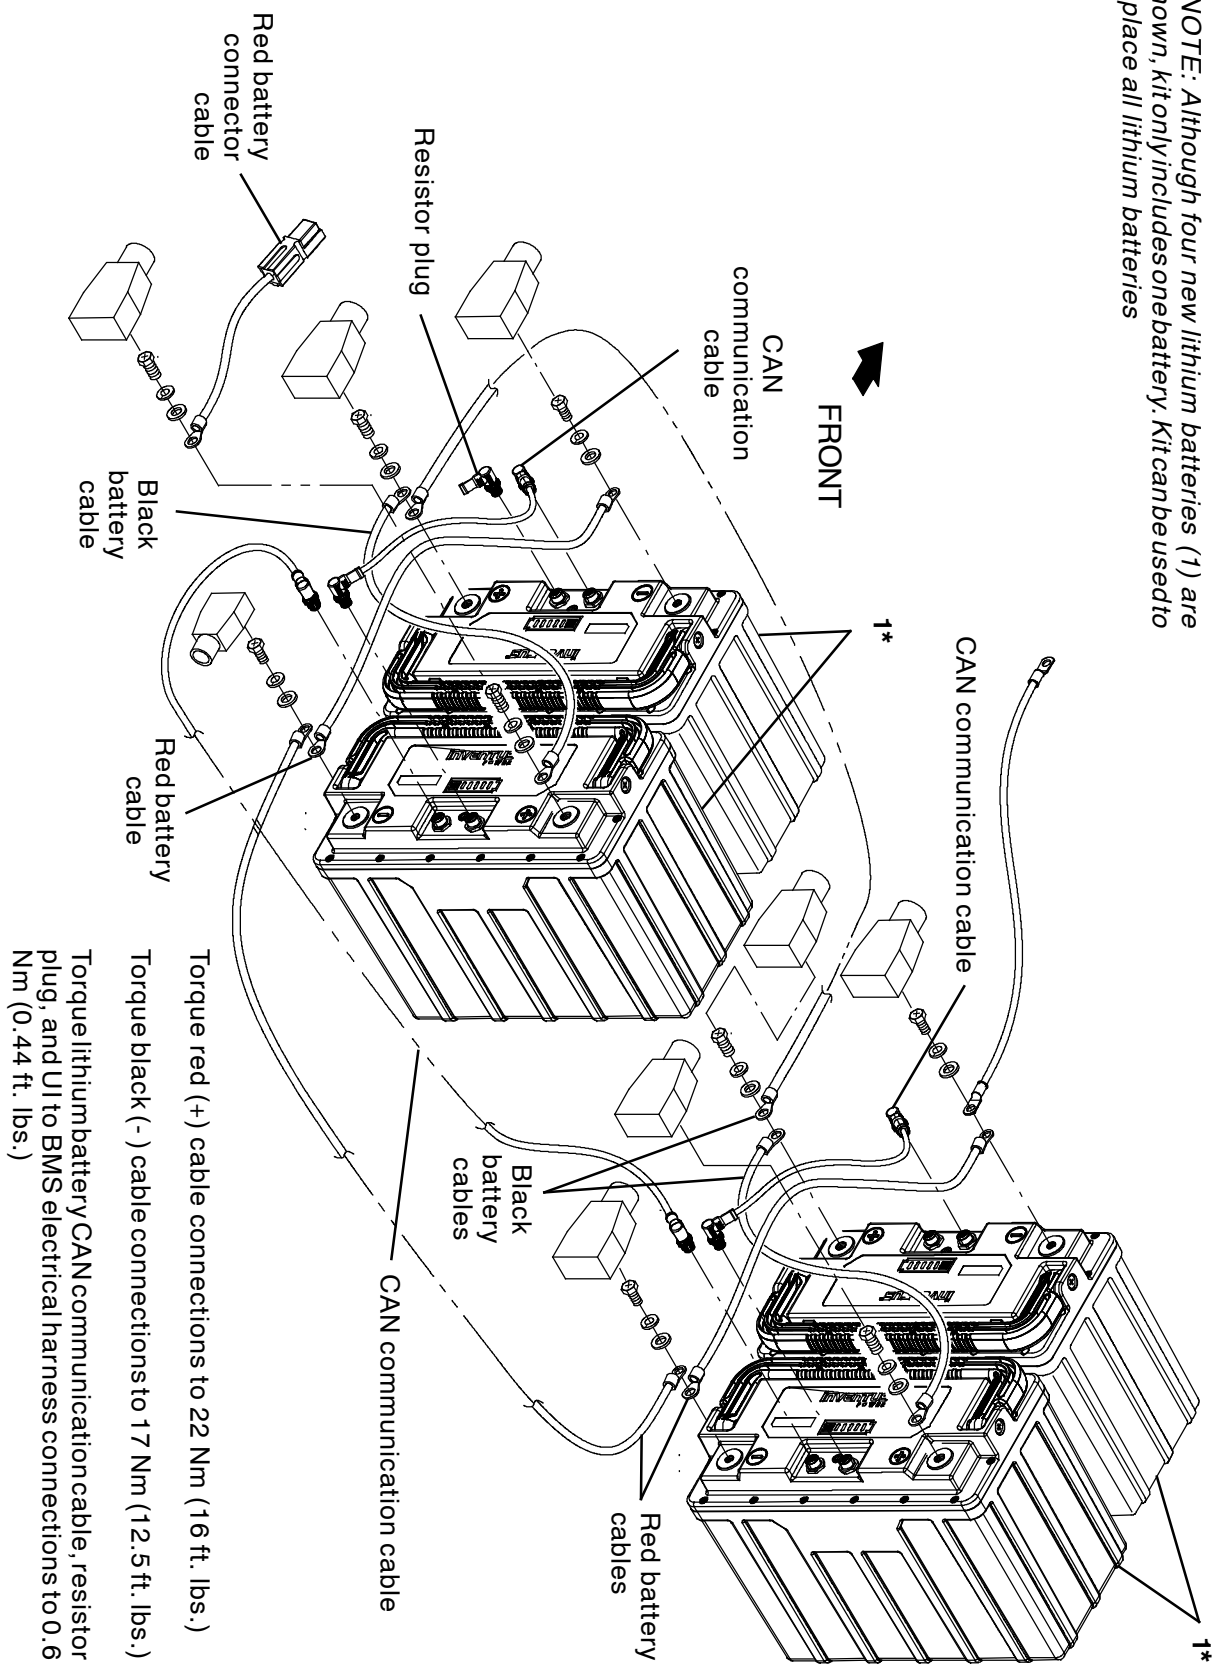

FIG. 10
10. Disconnect all cables from the faulty lithium battery being replaced. (Fig. 10)
11. If replacing the lithium battery equipped with the resistor plug, remove the resistor plug from the battery. Set the resistor plug aside. (Fig. 10)
12. Remove the faulty lithium battery from the battery compartment. (Fig. 10)
1. Install the new lithium battery into the battery compartment. (Fig. 10)
2. Reinstall the battery cables, CAN communication cables, and resistor plug (if battery equipped with resistor plug is being replaced) onto the battery. (Fig. 10)